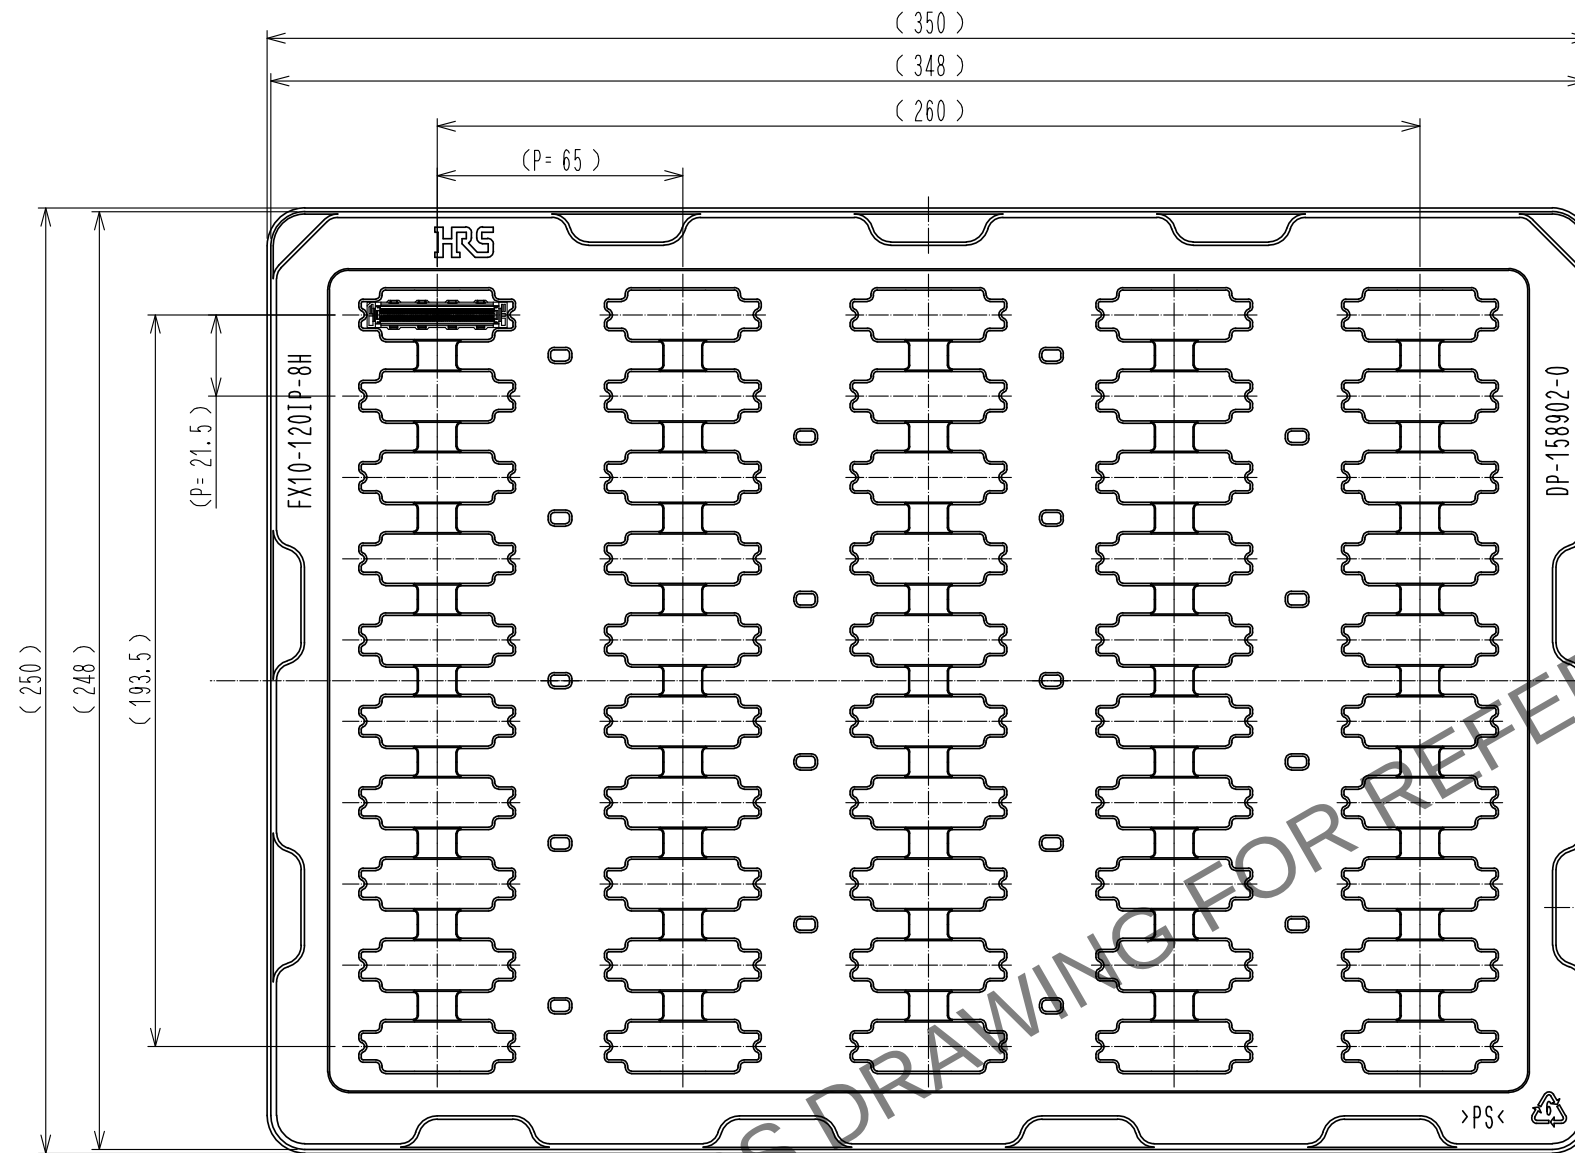

Fig.3 Drawing for packing (1:2)
- 6 50pcs of this product are packed in soft tray. See Fig.3 for details.